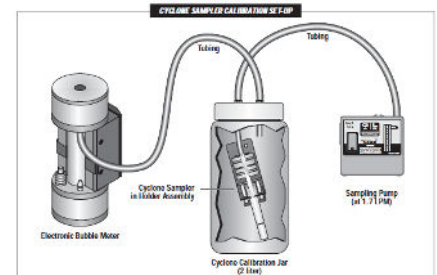

Figure-2
4. Calibrate Pump and Sample Train using a calibration jar (P/N: 7013376) at 1.7LPM. Figure -2